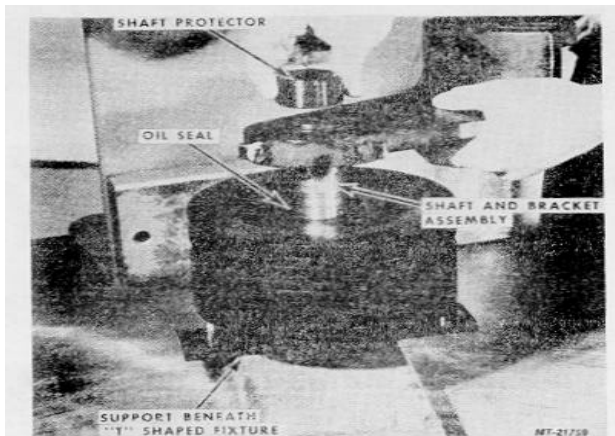

Fig. 67
- 30. Support beneath "T" shaped fixture SE-2782-5. Lubricate the Oil Seal contact area of the shaft and CAREFULLY install the Shaft into the Pulley. Press the shaft down until movement is stopped by the Shaft Protector SE-2782-8, Fig. 67.